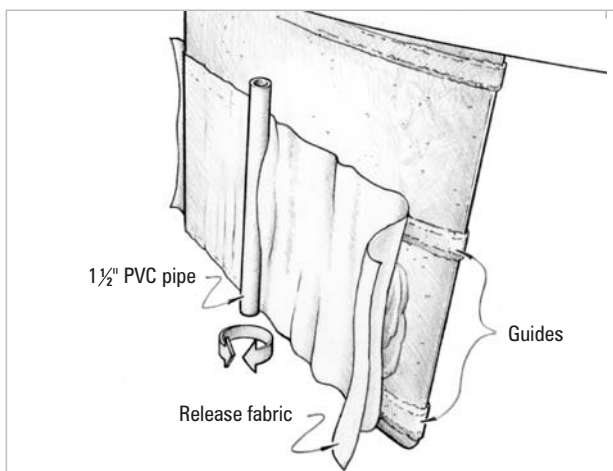

Figure 8-7 Using the cast template profiles as guides, drag a batten across the profiles to level the fresh epoxy mixture flush with the three profiles.
10. Lay a precut piece of release fabric over the fairing compound. The fabric should be large enough to cover the entire area from guide to guide. Using a length of 1½" diameter PVC pipe cut to span two of the guides, shape the fairing mixture flush with the guides. Beginning in the middle of the foil, roll the pipe back and forth, as you would a rolling pin, forcing fairing compound under the release fabric toward the leading and trailing edges of the foil (*Figure 8-7*). Adjust the angle of the pipe as you approach the edges of the foil to finish with the pipe parallel to the leading and trailing edges. With the proper amount of fairing compound, a small amount of excess will squeeze from the leading and trailing edge. To give yourself adequate working time in warmer temperatures, use 206 or 209 Hardener. Allow the fairing mixture to cure thoroughly.